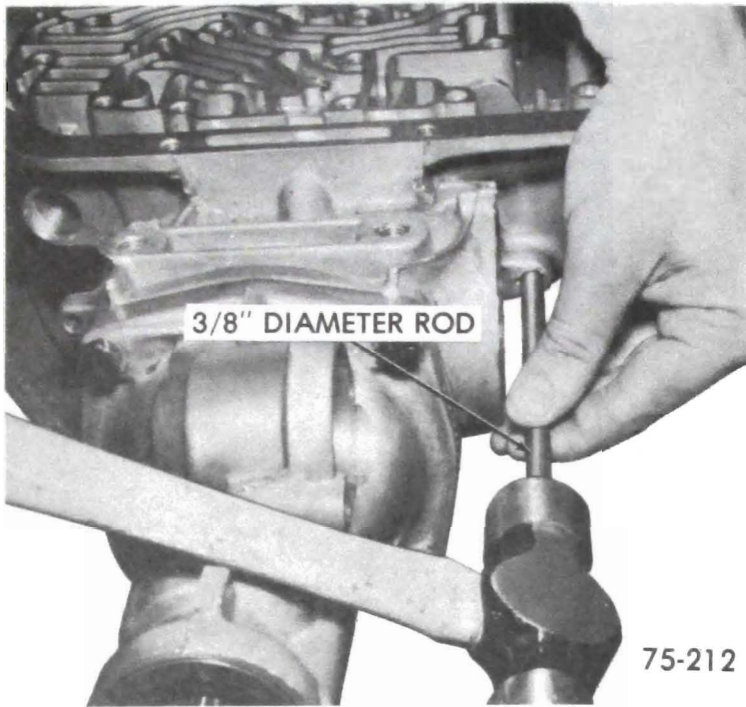

Figure 75-259
3. Install parking pawl shaft retainer plug. Drive into case using a 3/8" dia. rod, until retainer plug is flush to .010" below face of case. Stake plug in three (3) places to retain plug in case. See Figure 75-259.